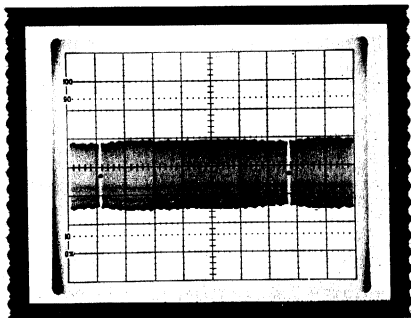

FIGURE 4
6. Observe TTA's (Timing Track) at Jack 1. Reference Figure 4.